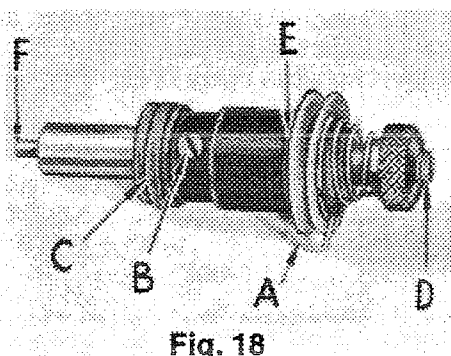
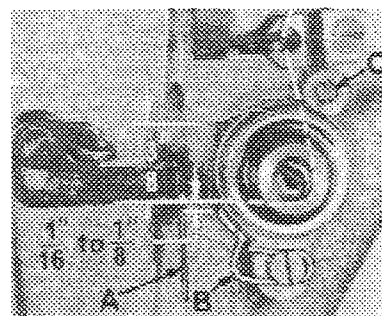
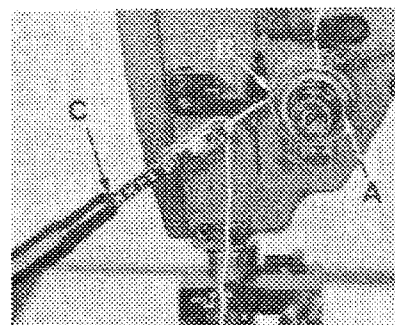

Fig. 18
Fig. 19
Fig. 20
Test check spring tension (A, Fig. 18). There should be enough tension to assure a good returning snap when the spring is depressed and released. Should it require adjusting, loosen set screw in head located under arm and to the right of tension assembly and remove tension assembly. Partially loosen tension post set screw (B) in tension post socket (C). Turn tension post (D) counterclockwise until check spring moves away from upper stop (E) and has no tension on it. Turn tension post (D) in a clockwise direction until spring again touches upper stop (E). Proceed further in same direction approximately 1/4 turn until desired tension is obtained. When correctly set, tension post set screw (B) should be drawn up snugly, yet not forcefully. Further adjustment of check spring tension can be made by inserting a screwdriver into slotted end of tension post (D) and turning in required direction.
Replace tension assembly with check spring about 3/8 inch above thread take-up bracket (A, Fig. 19). Replace tension post assembly while presser foot is resting on throat plate.
The in and out position of the tension assembly is correct when the tension discs are in line with the check spring eyelet (B, Fig. 19). Set the stop screw (C, Fig. 19) so that when the flange of the tension assembly rests against it, this position is maintained. Tighten the tension assembly set screw.
Check the adjustment of tension assembly (A, Fig. 20) and check spring tension. There should be enough tension to insure a good returning snap when spring (B, Fig. 20) is depressed and released. The check spring tension is adjusted from about 1 to 1 1/4 ounces when measured with a postal scale, No. 21227DN, (C, Fig. 20). This is measured when the check is 1/32 to 1/16 inch from the stop. The tension post set screw should be drawn up snugly but not forcefully tightened (B, Fig. 18). The tension release pin should move freely in the tension post (D, Fig. 18). The check spring eyelet (B, Fig. 19), located just below the tension discs, should be set for correct height as follows:
With a thread running from the tension post to the thread take-up bracket (A, Fig. 19) in a straight line, the check spring eyelet should be set 1/16 to 1/8 inch below the thread line (Fig. 19). Be sure the eyelet is set close to the tension discs so that the check spring will pass freely over it without obstruction. After making this setting, proceed to thread machine as per threading diagram (Fig. 3).